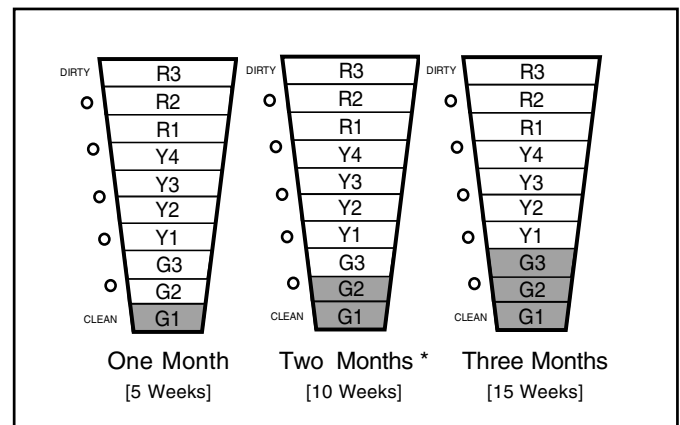

Figure 26 Green LED Pre-Filter Settings
- The three GREEN LED's are used to indicate PRE-FILTER cleaning interval. This is measured in actual run time of the indoor fan. The default setting is 2 months [10 weeks]. See Figure 26.
### PRE-FILTER SETTING (Figure 26)